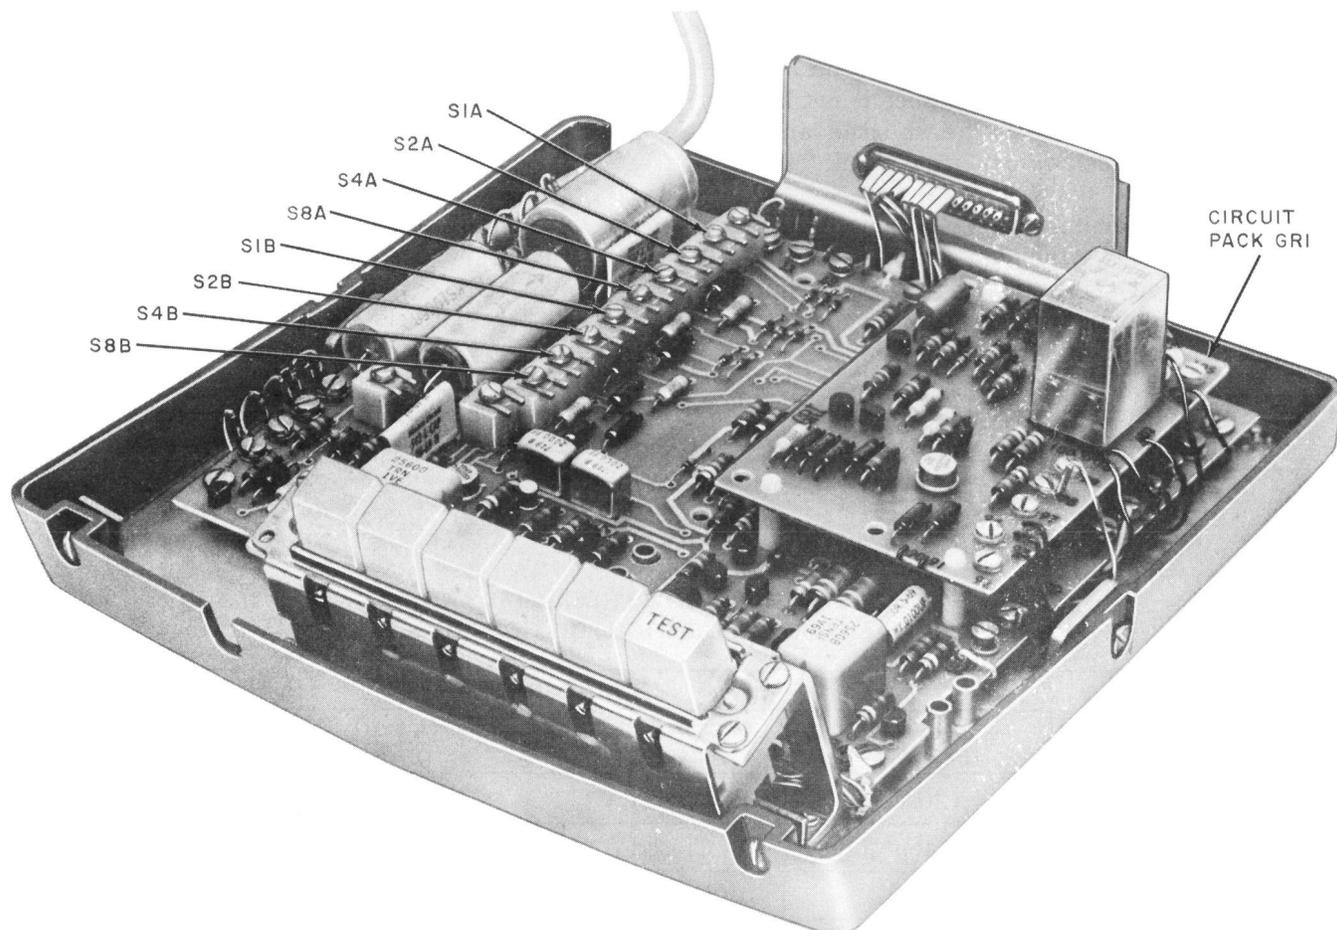

Fig. 8—Identification and Location of Line Pad Screw Switches
- (1) Supply power to the data set by plugging in the power cord of the 2245A transformer.
- (2) Connect the VOM in series with the data station and set it to measure in the milliamp current range.
(3) When the measured current is greater than 3.2 mA, additional resistance will have to be added to the circuit by opening one or more of the screw switches in each side of the line. If the measured current is less than 3.0 mA, the screw switches will have to be closed to remove some of the pad resistance.
(4) The screw switches are designated S1, S2, S4, and S8 for each side of the line. These switches are always closed and opened in pairs, ie, both of the S1 switches, S2 switches, etc, are opened and closed so that the resistance will always be equal in both sides of the line. The locations of these switches are shown in Fig. 8. Table D gives the resistance provided by these switches.
4.10 After determining the resistance that must be provided by the data set, refer to Table D for the line pad screw switch settings required. The location and identification of these screw switches are shown in Fig. 8.